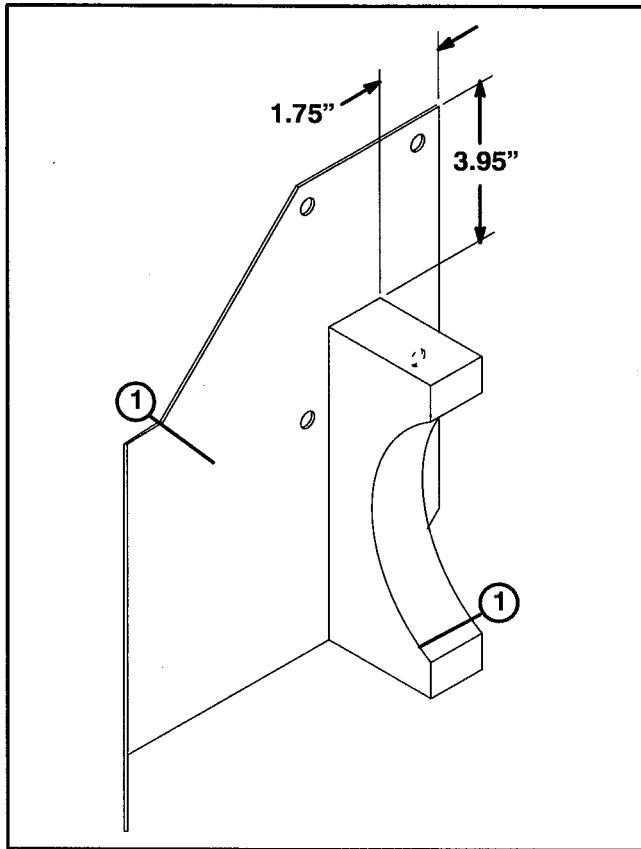

Figure 15
58. Using dimensions shown in figure 15, locate and mark generator baffle mounting position on generator shield.